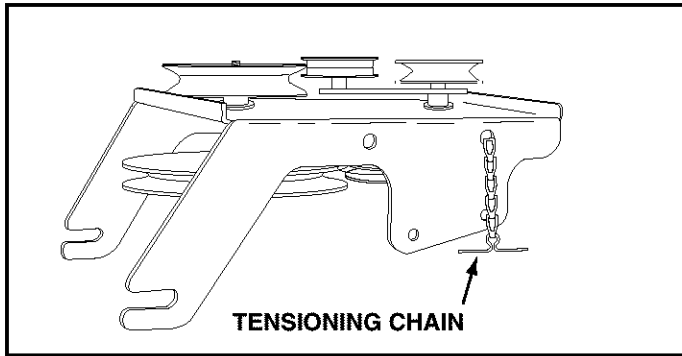

FIGURE 19
- Turn the clutch/idler assembly upside down and place the extra tensioning chain through the left front hole as shown in figure 19.